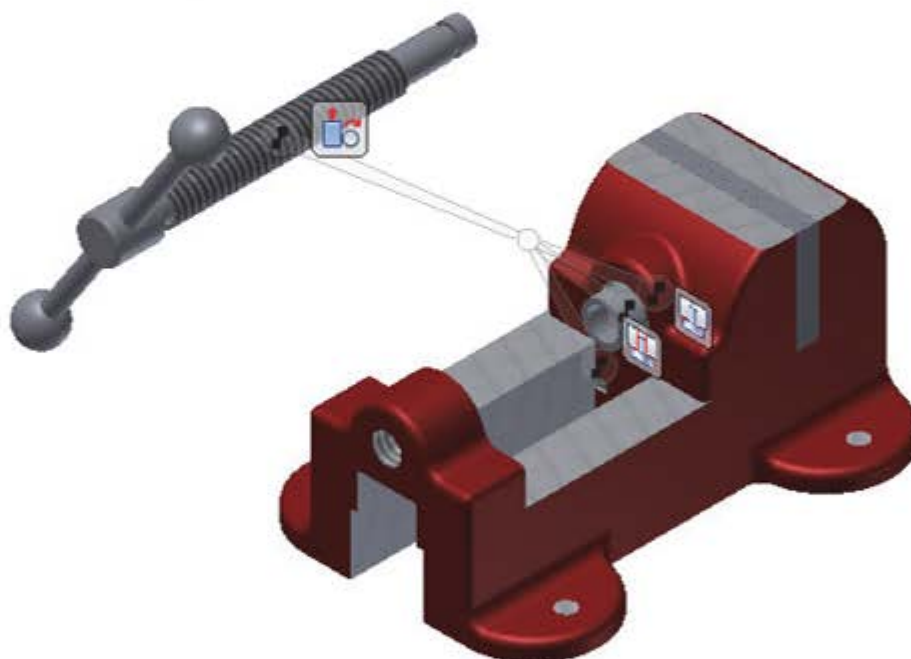

Figure 18–24
2. If you move constrained components apart (as shown in Figure 18–24), how can you display them in their constrained positions again?